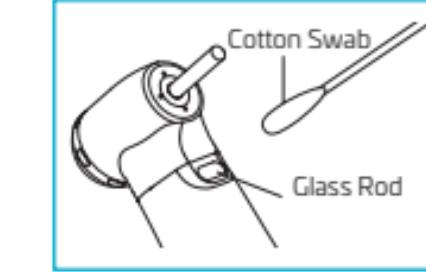

Fig. 5.1
- Wipe clean the Cellular Glass Optic Rod entry point and exit point with an alcohol-immersed cotton swab. Remove all debris and oil.(Fig.5.1).